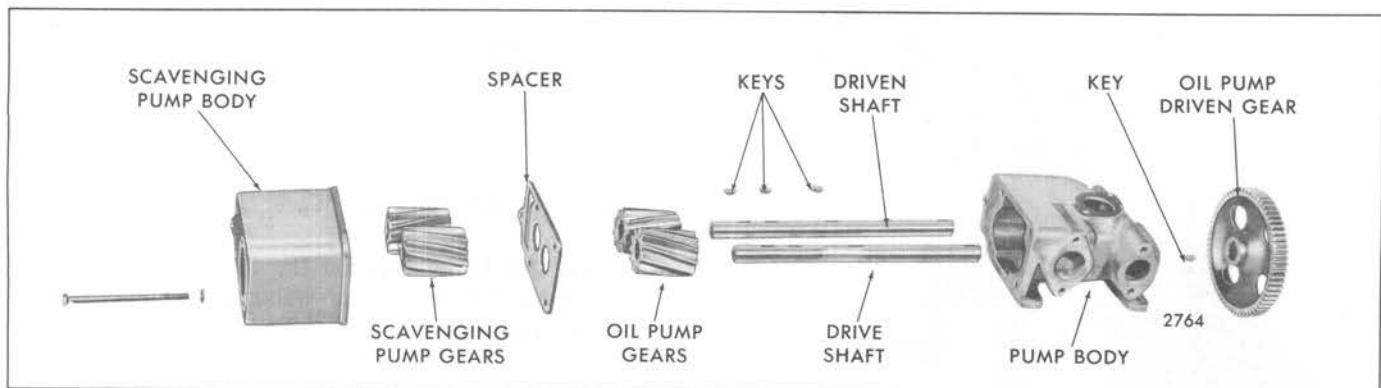

Fig. 14 – Lubricating Oil Pump Details and Relative Location of Parts (12V-92 and 16V-92 Engines)
Observe the relative position of the parts (Fig. 14) during disassembly to facilitate reassembly of the pump:
8. Slide the spacer on the shafts. Install the keys in the drive shaft, then slide the scavenging pump gears on the shafts. The right-hand and left-hand scavenging pump gears must be in the same relative position as the oil pump gears (Fig. 14).